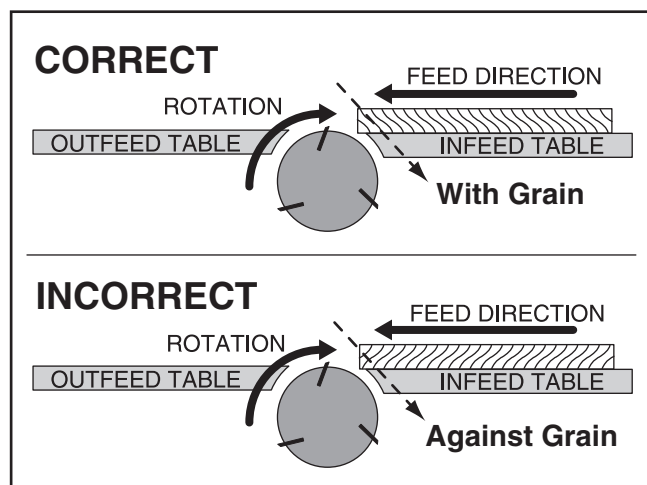

Figure 34. Proper grain alignment with the cutterhead.
- **Jointing and surface planing with the grain is safer for the operator and produces a better finish.** Cutting against the grain increases the likelihood of kickback and workpiece tear-out. DO NOT cut against the grain! Cutting with the grain is feeding the stock across the cutterhead so the grain points down and toward you, as viewed from the edge of the stock (see **Figure 34**).